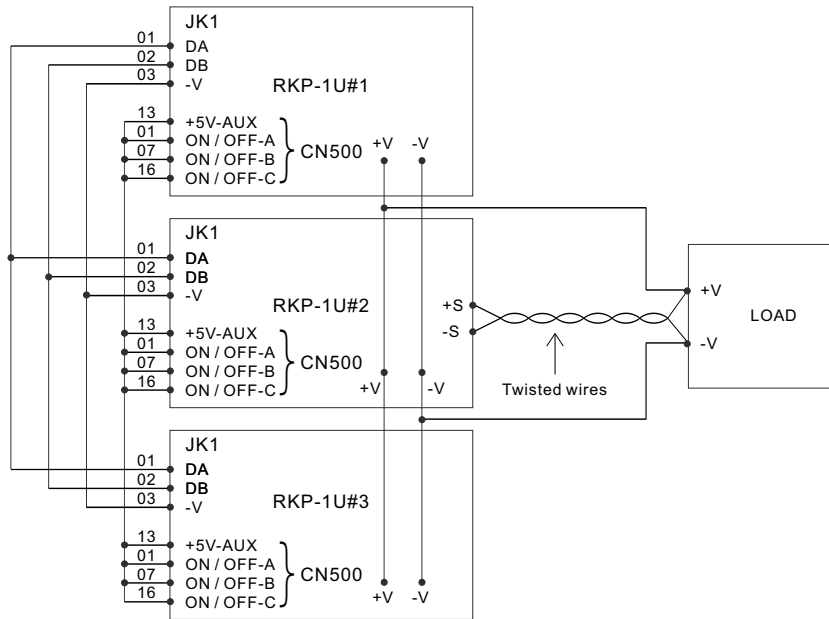

Figure3-8 Three racks connected in parallel
- ⊙ Parallel the racks before connecting to the load (refer to Figure 3.8). Do not connect each rack to the load separately!
- ⊙ The control signals DA, DB, -V should also be connected in parallel. (refer to Figure 3.8)
- ⊙ Twisted wires should be used for the wiring of +S and -S. To avoid the interference, the twisted wires should not touch the load wires. (refer to Figure 3.8)